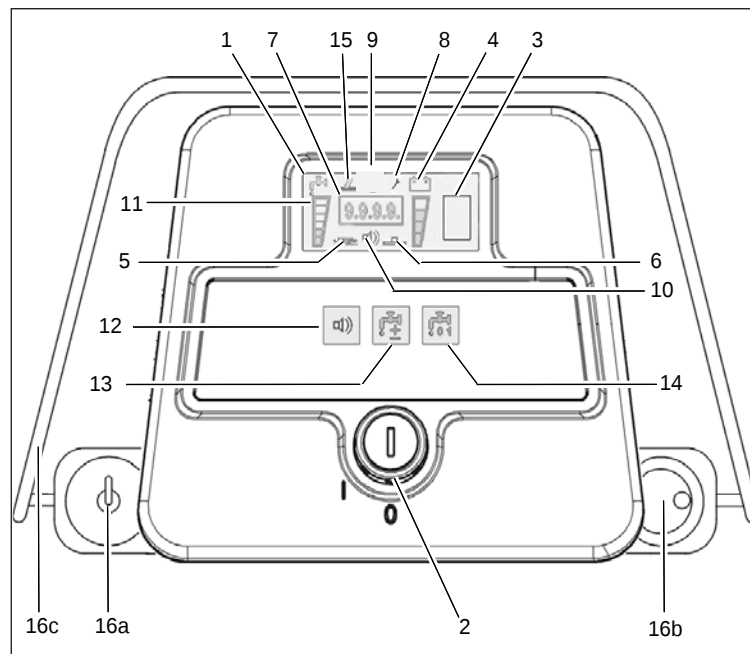

Fig.4
3. Switch on solution supply by means of tip-switch (Fig. 4/14).
4. Adjust solution amount by means of tip-switch(Fig. 4/13).
6. Use the speed control knob (Fig. 4/16b) to adjust the work speed. Use the direction switch (Fig. 4/16a) to select forward or reverse. Pull the bail handle (Fig. 4/16c) to start moving.
Display (Fig. 4/1)
Battery charge indication (Fig. 4/3)
LDS indicator (Fig. 4/4)
Symbol brush drive (Fig. 4/5)
Symbol vacuum motor (Fig. 4/6)
Hourmeter (Fig. 4/7)
Service indicator (Fig. 4/8)
free (Fig. 4/9)
(Fig. 4/10)**
Solution flow symbol (Fig. 4/11)
(Fig. 4/12)**
Solution flow tip-switch (Fig. 4/ 13)
(Fig. 4/14)**
(Fig. 4/15)**
Drive direction control with speed control knob/bail handle (Fig. 4/16)